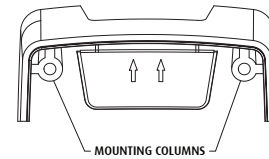

Fig. 2
3. If a surface spacer is included, ensure the isolated (screw) mounting columns are at the top (Fig. 2).
Note: The spacer is not reversible; arrows are marked upwards on the removable plastic windows for your convenience (Fig. 2).